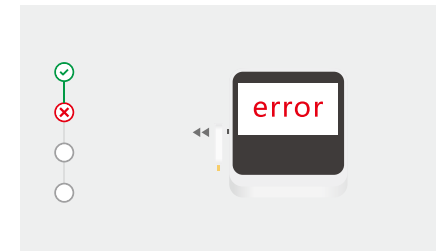

Fig.32 Device is ERROR
- Display shows ERROR (Fig. 32), Indicates that there is a fault.